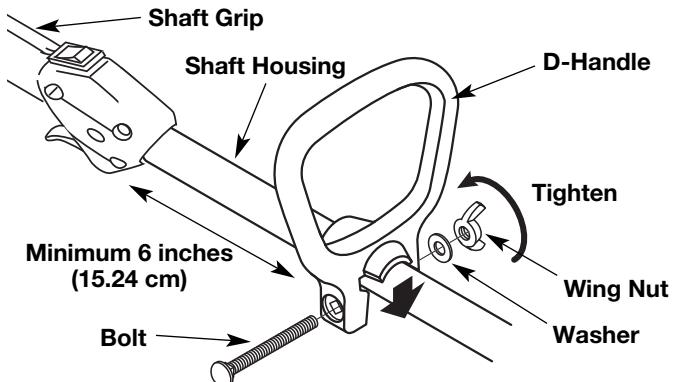

Fig. 1
- Push the D-handle down onto the shaft housing and push it on the boom (Fig. 1). The squared bolt hole in the handle is to the right.